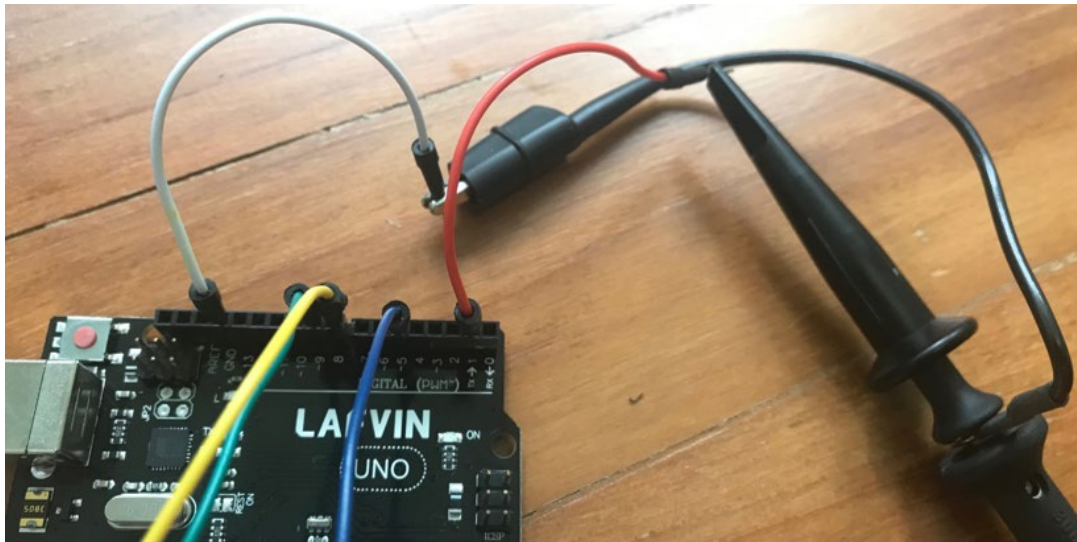

Fig. 13: Connecting Oscilloscope probe to Arduino to monitor UART TX
**#Task:** Reuse the setup in section 6.3. **Probe the UART TX pin of the processor.** This is also pin 1 of the processor. You can access the processor pin 1 at the headers (See Fig 1). Fig 13 below shows the connection to Oscilloscope.
- Ensure that connection shown in Fig. 13 is done.